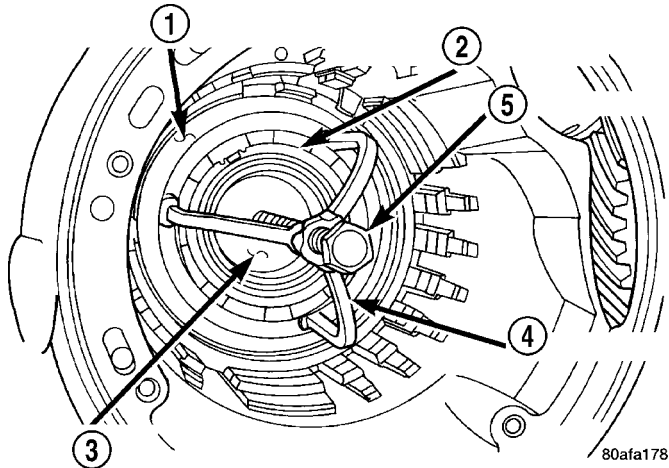
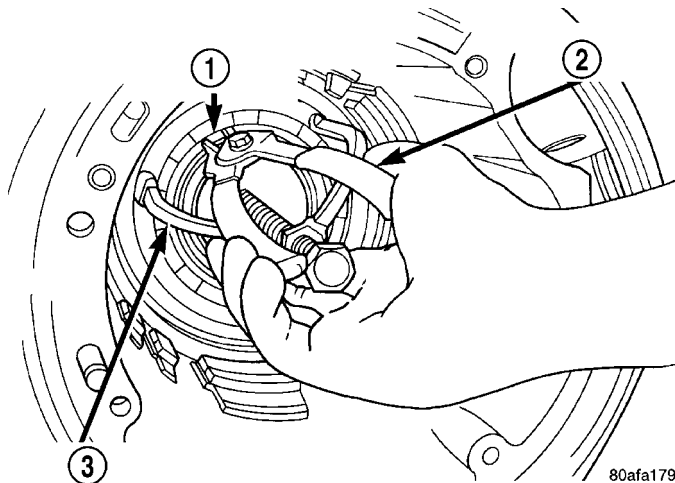

Fig. 95 Compressor Tool in Use
Fig. 96 Install Snap Ring
(10) Install low/reverse spring compressor into position (Fig. 95). Compress low/reverse piston and install snap ring as shown in (Fig. 96).